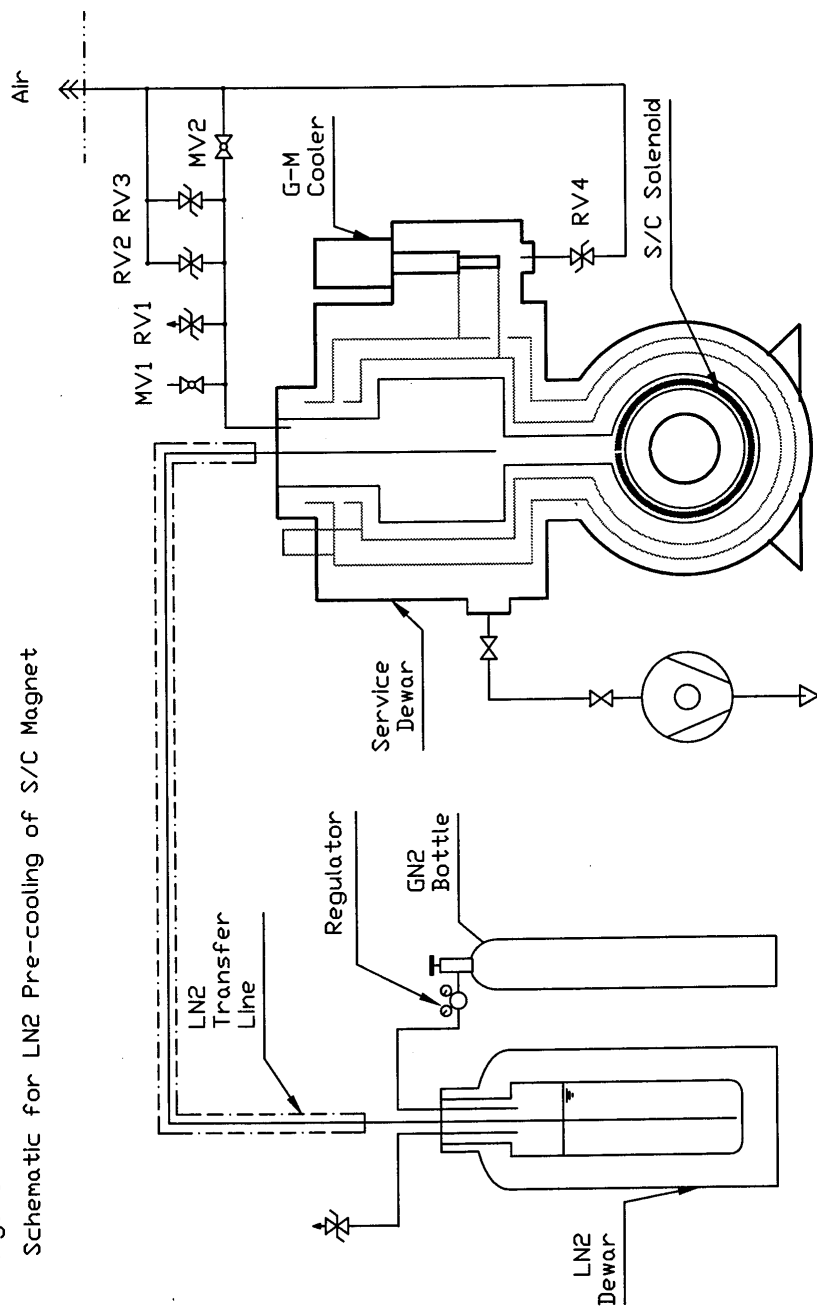

Figure 3
- 5.4.1 Connect gas hoses and control cable between He compressor and cold-head according to Fig. 3.
- 8.4 Figure 3. Schematic for heat shield cooling using cryocooler.